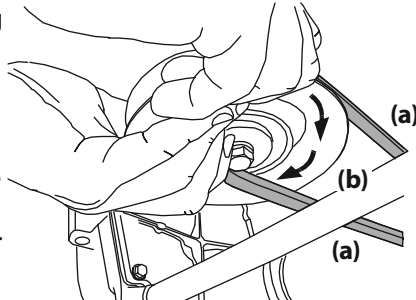

Figure 46
- d. While still holding the PTO belt (a) downward, continue turning the PTO pulley (b) until the PTO belt (a) is rolled off the PTO pulley (b). Refer to Figure 46.
- While holding the PTO belt and PTO pulley together, rotate the PTO pulley to the left (See Figure 46). Continue holding and rotating the PTO pulley and PTO belt until the PTO belt is fully rolled into the PTO pulley.